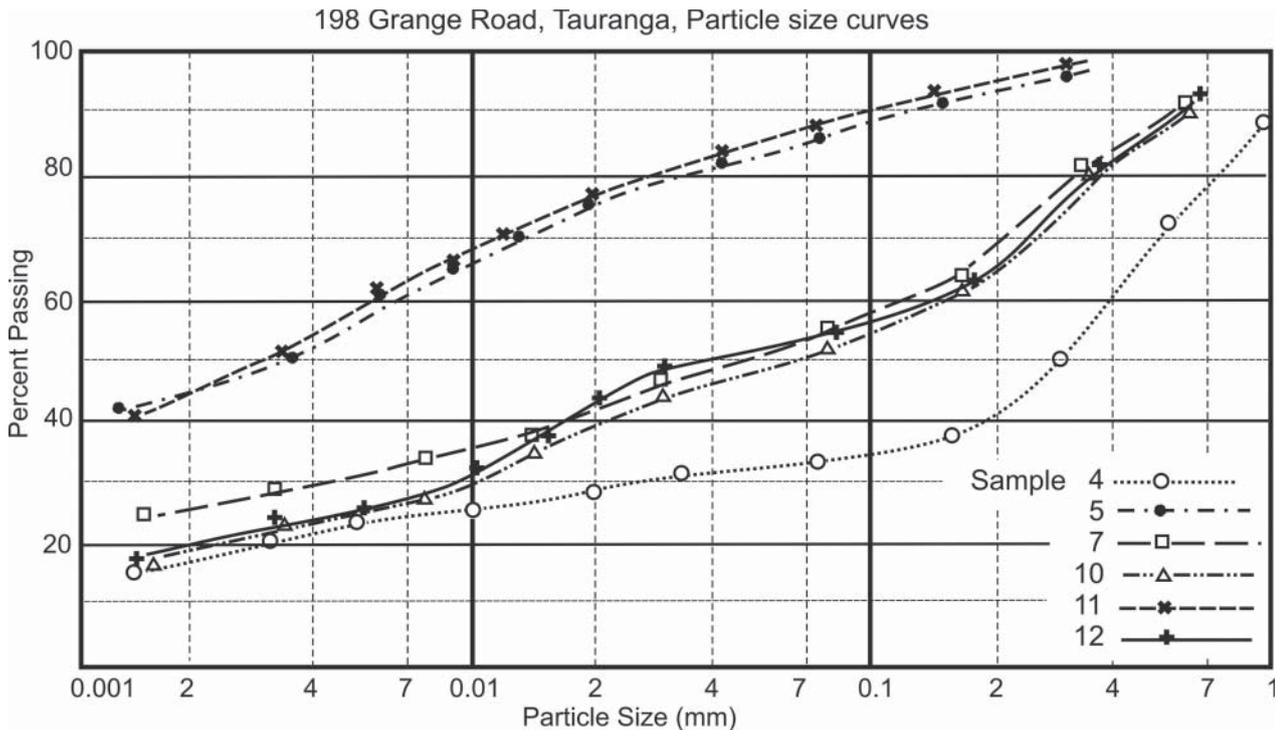

Figure 5. Particle size curves from four samples.
5. Two of the particle size curves (Figure 5) were from brown ash samples; these were S5 and S11. Another three were from the pale coloured samples, and the last from the non-plastic layer (Rangitawa formation). There is surprising similarity between the curves from the two soil groups.